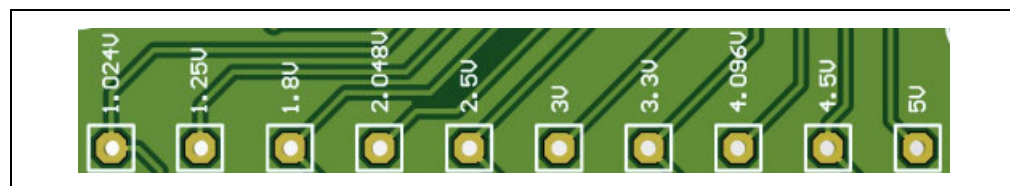

FIGURE 2-5: Test Points.
3. Test points with voltage values, as shown in Figure 2-5, are provided to check the respective output voltage of the MCP1502-XX using a digital multimeter.